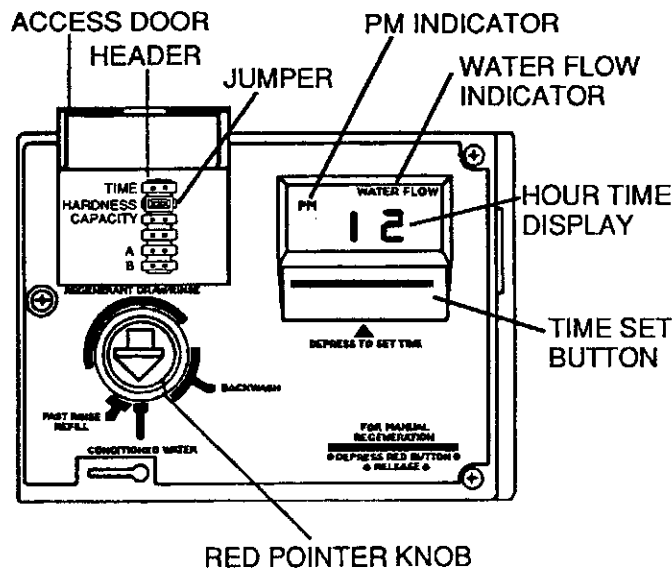

Figure 1
2. Open the access door by inserting a small screwdriver into the small opening at the bottom of the door and gently pry up (Figure 1).